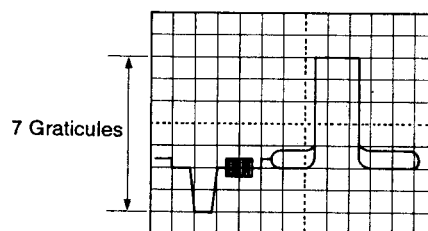

Fig. 16 Video Output Waveform (+Q section)
- Set S1 to position ④ and S4 to position ②, and apply a +5dBmV SCR signal to the INPUT terminal.
(7) Audio Deviation Adjustment
- Set S4 to position ① and apply a +5dBmV NON-SCR signal to TV receiver directly. Measure the audio level on oscilloscope 1.
- Set S1 to position ③ and S4 to position ①, and apply a +5dBmV non-scrambled signal to the INPUT terminal.
(8) Video Modulation Adjustment
- Set S5 to ③ and S3 to ②. Adjust the vertical scale of Oscilloscope 2 so that the White Bar level of the EIA color bar signal spans 7 vertical graticules as shown in Fig. 16. Disconnect the direct signal connection to the TV Receiver.
- Set S1 to ③, S5 to ③, S3 to ② and apply a +5dBmV non-scrambled signal to the Main Assembly INPUT terminal.